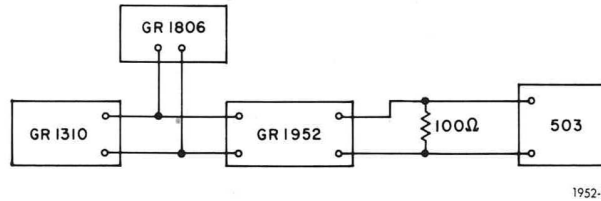

Figure 6-3. Test Set-Up for Signal Handling Capacity.
- Use the set-up of Figure 6-3 and the conditions of Table 6-6.